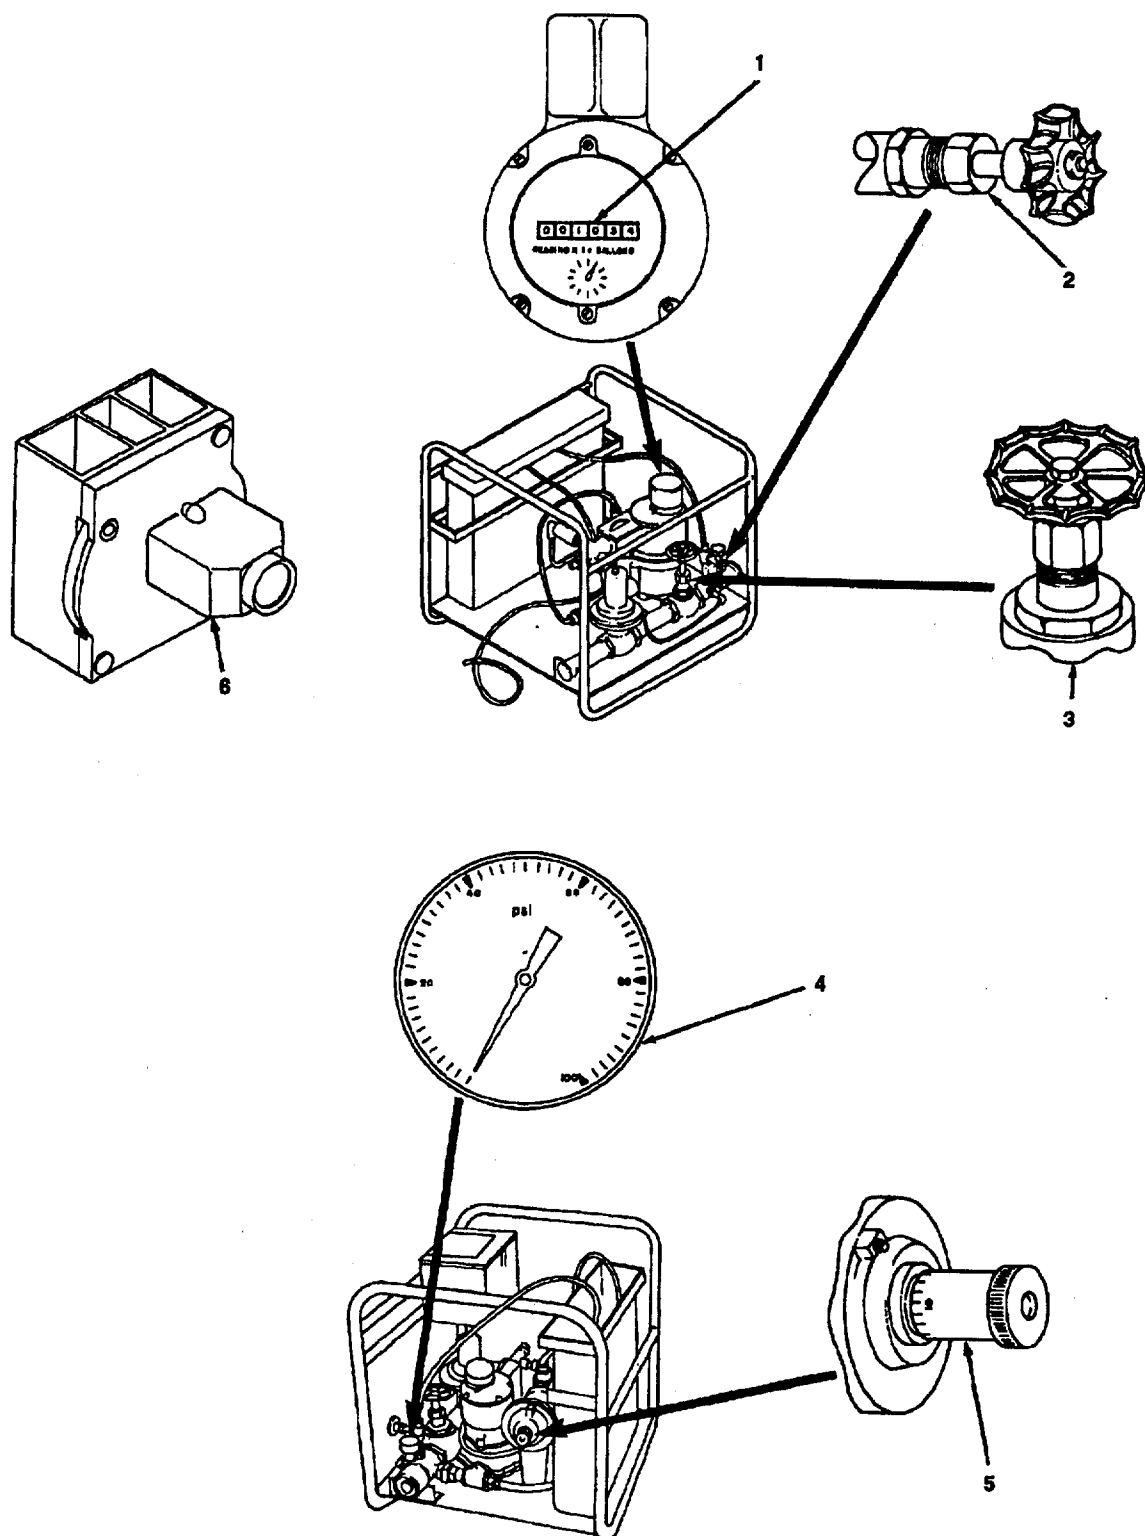

Figure 2-6. Operator's Controls and Indicators for Hypochlorination Unit, Model 1955-1.
2.1.5.2 Hypochlorination Unit. See figure 2-6 and table 2-6 for a description of the operator's controls and indicators for the hypochlorination unit, model 1955-1. Reference applicable technical manuals for a description of the operator's controls and indicators for the hypochlorination units, model 1955-3 and model A-506131.